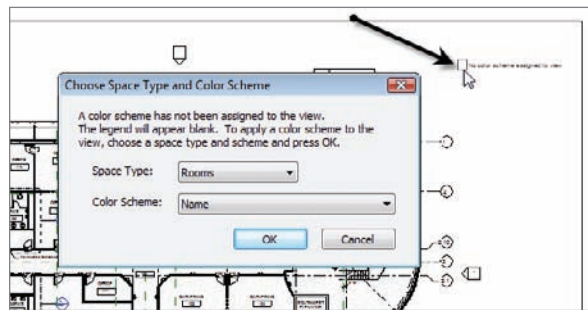

FIGURE 15.22 Placing the legend and specifying the color scheme
8. In the Choose Space Type And Color Scheme dialog, change Space Type to Rooms and Color Scheme to Name (see Figure 15.22).